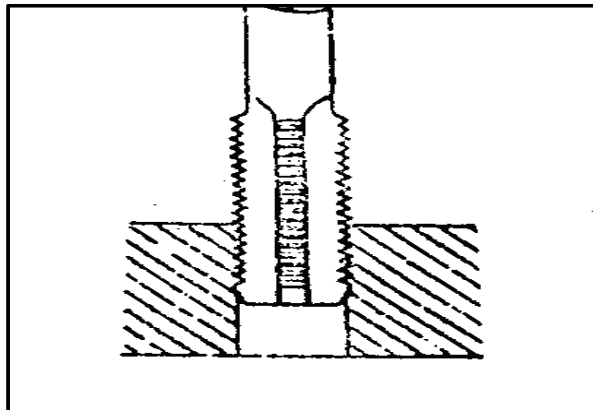

FIGURE 4.12
- 4.12 Identify the drilling operation in FIGURE 4.12.